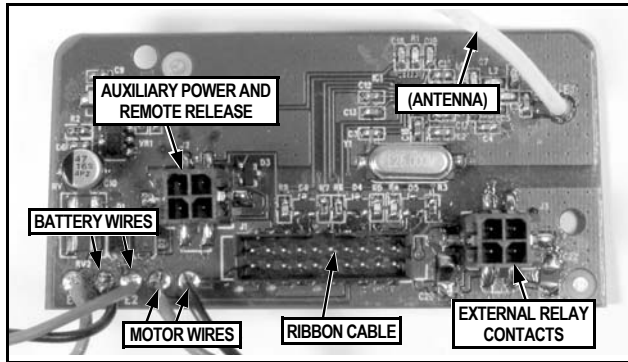

FIG. 14: RECEPTACLES LOCATED IN THE INSIDE HOUSING
3. See Fig. 14. Before placing the inside housing onto the lock, plug the ribbon cable and the motor wire into their receptacles on the inside housing circuit board. **Note:** These plugs and sockets fit only one way--do not force them. Seal the connectors with dielectric grease (included). Do not allow the wires to cross or lay on top of each other. Jiggle the connector cable to be sure the wire opening does not pinch wires before fastening bolts.